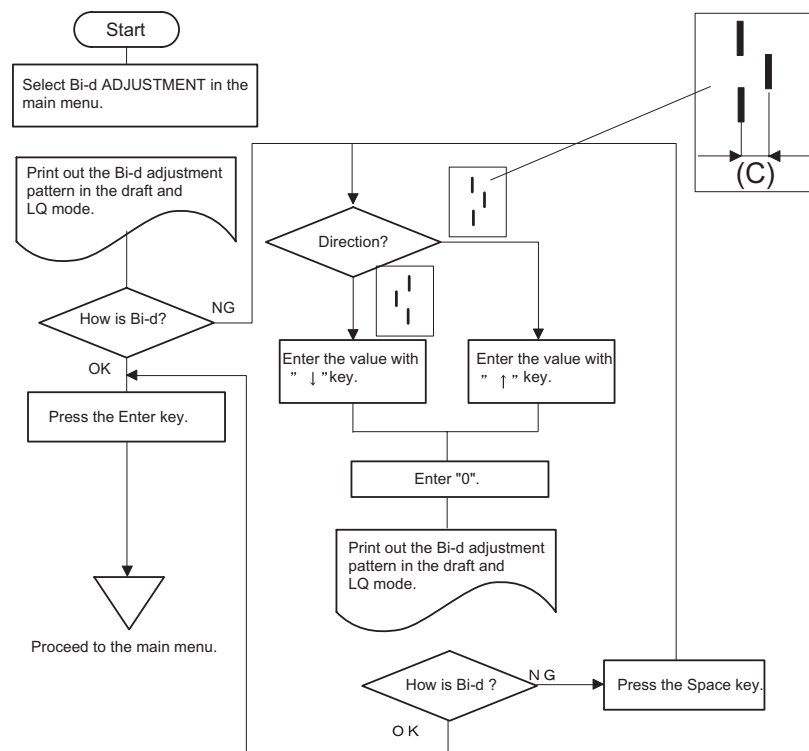

Figure 4-8. Bi-d Adjustment Flow Chart
6. Adjust the deviation referring to the flowchart below to make the deviation ( C ) less than 1/2 of the line width in the draft mode and 1/3 of the line width in the LQ mode. (Refer to Figure 4-8.)